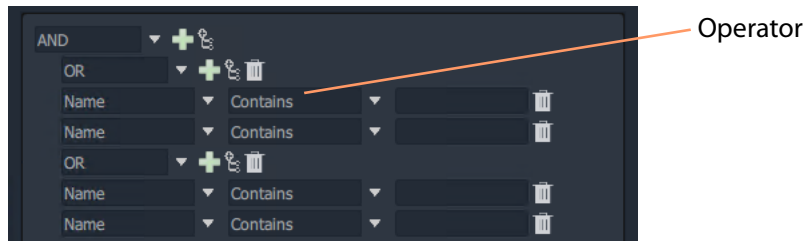

Fig. 11-61: Second Expression Item Added
- 8 Add a second expression item under the new OR item. See Figure 11-61.